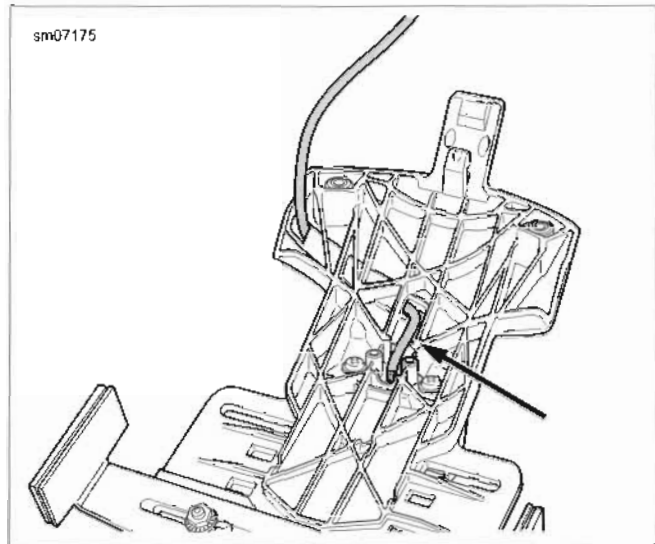

Figure 2-115. License Plate Bracket Wire Routing
1. Press **new** adhesive tape (1) onto surface for 1-3 minutes.
2. See Figure 2-115. Make sure wiring is properly routed through license plate bracket.